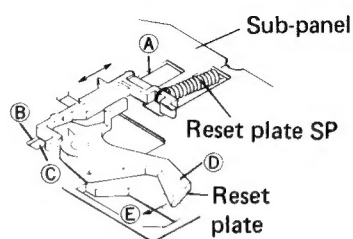

Fig. 4-4 Improper movement of selector
If there are protrusions remaining from the original-pressing process on surfaces (A), (B), and (C) of the sub-panel which slides with the selector, the movement of the selector will be adversely affected. Therefore, these protrusions must be removed (Fig. 4-4).
If there are plastic protrusions on the pressure pin section of section (D) of the reset plate, these protrusions will come in contact with the lower surface of the driving panel when the reset plate moves in direction (E) and the movement of the reset plate will be adversely affected. Therefore, these protrusions must be removed (Fig. 4-4).